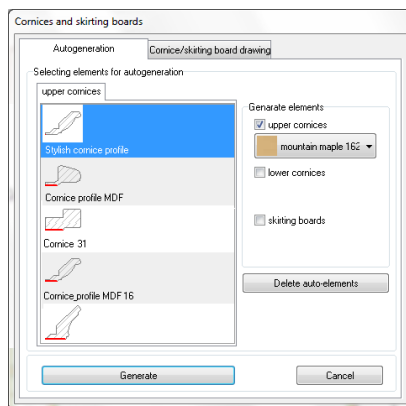

Fig. 232 – Cornices and skirting boards window
- click  **Cornices and skirting boards** icon to open the **Cornices and skirting boards** window (Fig. 232);